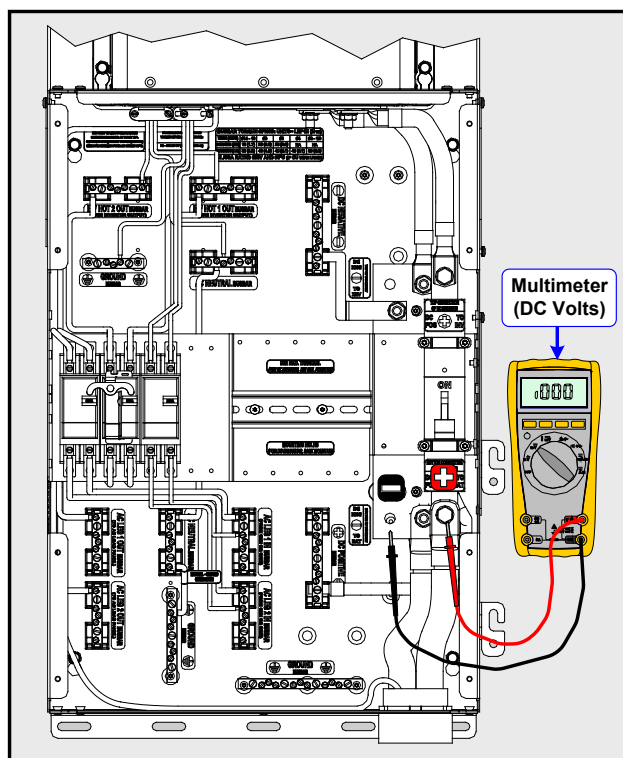
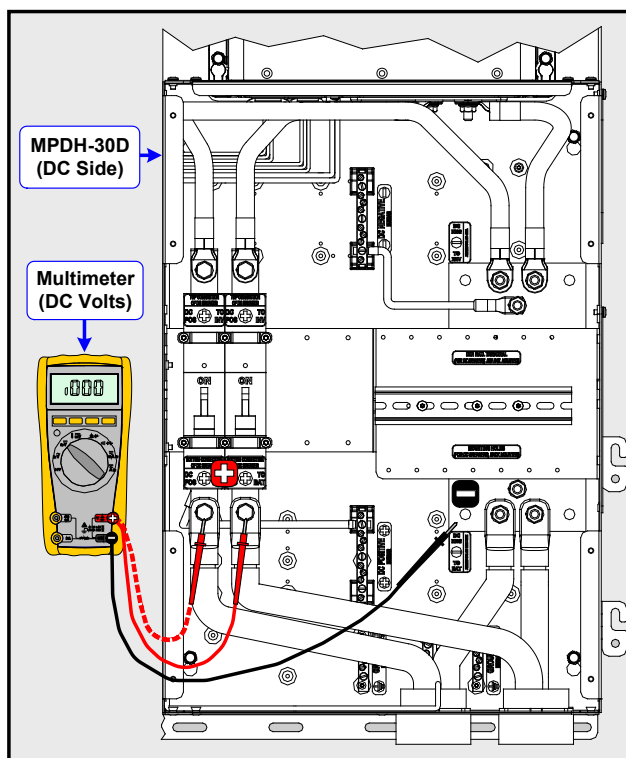

Figure 3-34, DC Voltage Checks - Single Enclosures
Figure 3-35, DC Voltage Checks - Dual Enclosures (DC Side)
2. Perform DC voltage/polarity checks (refer to Figure 3-34 for single enclosures or Figure 3-35 for dual enclosures):